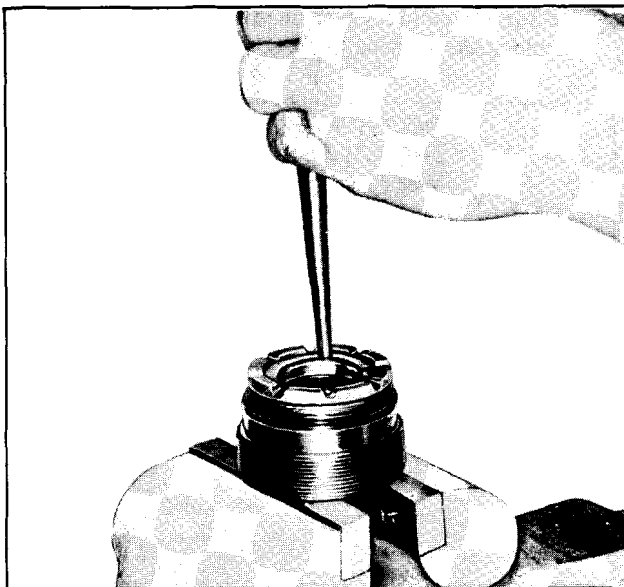

Fig. 9-91 Installing Retainer
6. Install a new bearing retainer on the adjuster plug by carefully tapping on the flat surface of the retainer (Fig. 9-91).